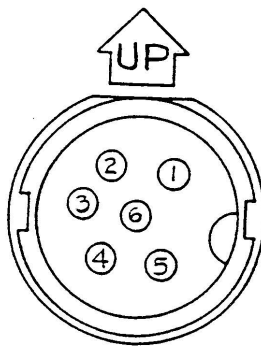

FIGURE 4-5
- B. Remove Shoulder Screw (Item 23). Loosen (1) set screw (Item 36) in upper side of vane hub.
- F. Refer to Figure 4-5. Connect an ohmmeter to pins 3 and 4 of the cable connector (Item 9) mounted on the lower side of the sensor housing.